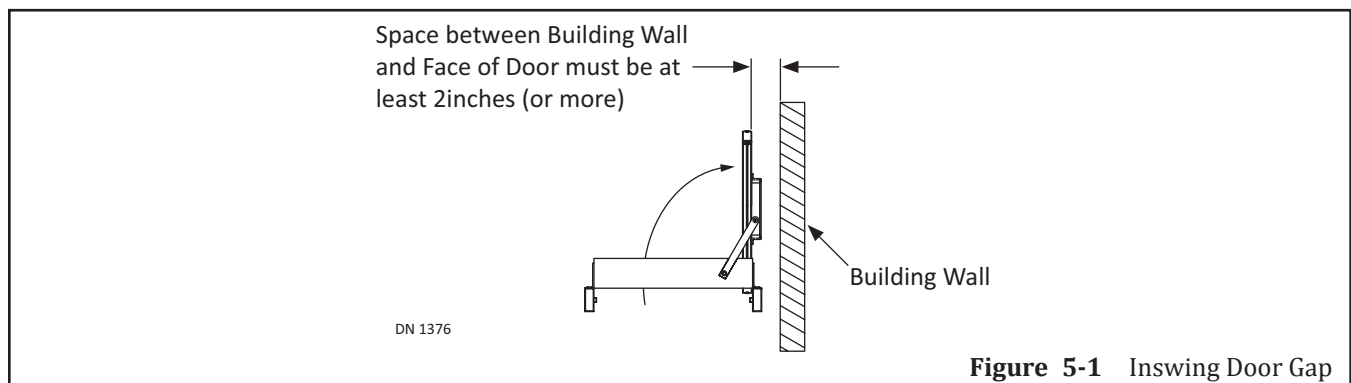

Figure 5-1 Inswing Door Gap
2. Measure between the wall and the outside face of the Swing Door. Please see Figure 5-1.
- a. There must be a 2 inch minimum gap. If there is less than a 2 inch gap, please call Customer Service at (877) 622-2694.